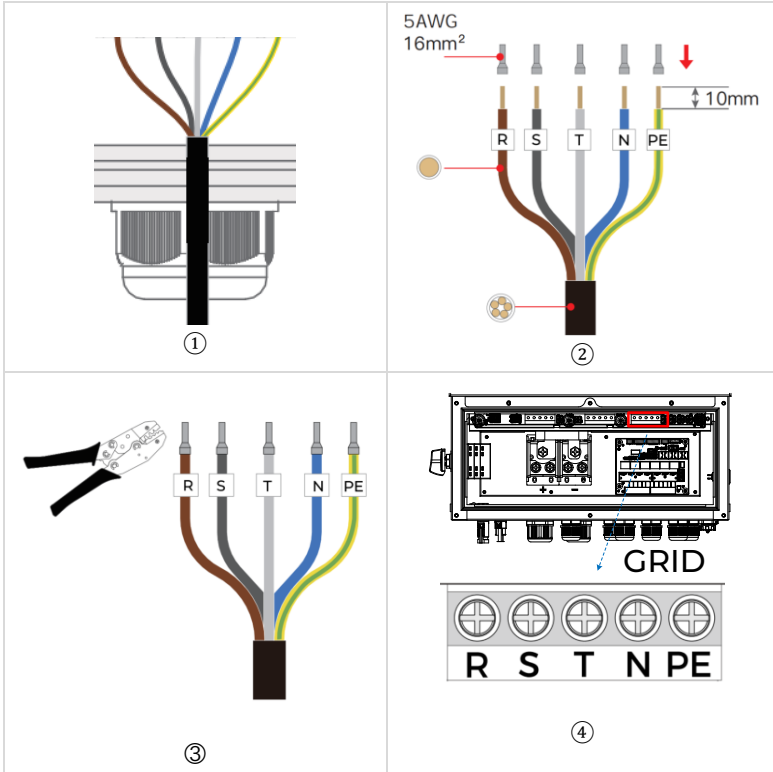

Figure 5-5 Grid connection
Step 2 The prepared cable is inserted through the GRID port as shown in Figure 5-5①.
Step 3 Remove the insulation layer of the cable by using a wire stripper according to the Figure 5-5②.
Step 4 Insert the stripped power cables into the cord end terminals respectively and crimp them by using a crimping tool, as shown in Figure 5-5 ③.
Step 5 The cables shall be connected to the ports according to R, S, T, N, PE respectively as shown in Figure 5-5④.